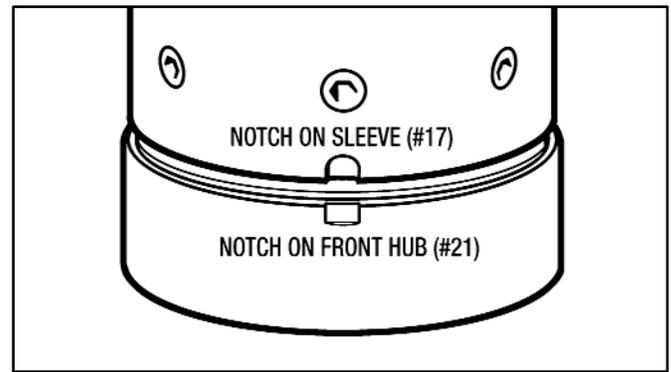

Figure 7.15 Correct Alignment of Notches
The Maximum Offset Dimension (X_{MAX}) and the Minimum Offset Dimension (X_{MIN}) must be measured to determine the Average Offset Dimension (X_{AVG}). Use a set of Calipers as shown in Figure 7.15.
2. Take the (2) L-Clamps off and lift the SmartPac Assembly off the Support Fixture. Set the assembly back in the vertical position with the Front Hub pointing downward.
5. Place the Sleeve (#17) over the assembly. Attach with a couple of Flat Hd. Screws (#15) to check alignment. The notches should be aligned as shown in Figure 7.15.
6. Clean the (6) Flat Head Screws (#15) with **Loctite Primer T**. Apply a little **Blue Loctite #242** to the screws and install them into the Sleeve (#17). **Torque to 14 Ft. Lbs.**